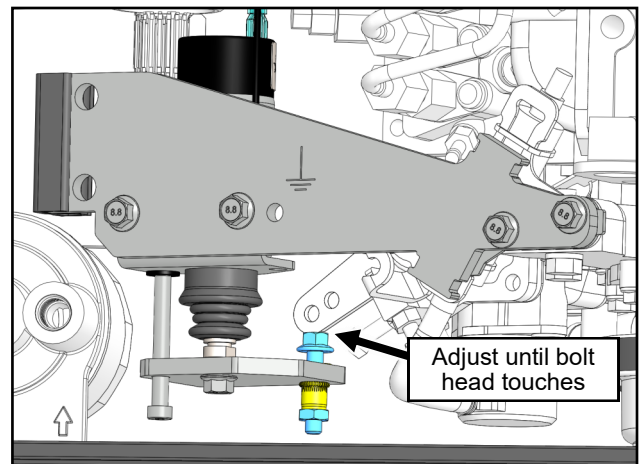

Fig. 4.3 (Solenoid adjustment)
- 4.3 Per Figure 4.3, compress the solenoid by hand and adjust the 1/4-20 bolt using fingers so that it is bumping up against the throttle arm.